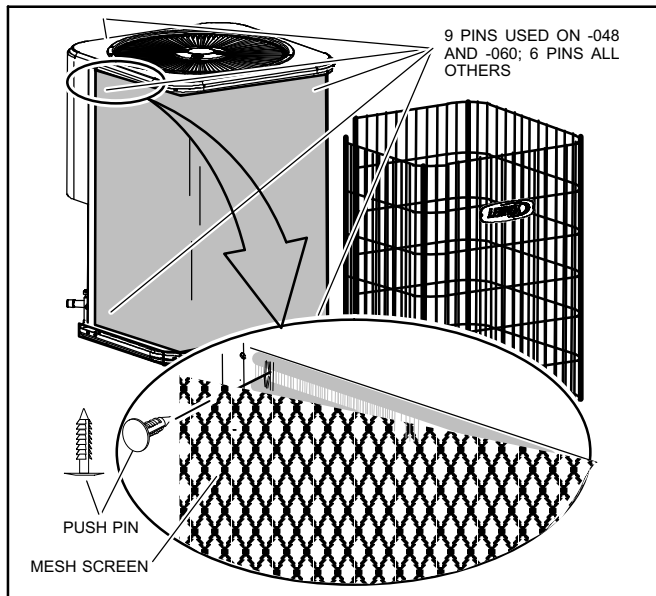

Figure 18. Cleaning Debris from Mesh
2. The outdoor coil is protected by an inner mesh screen and a wire cage (see figure 18). If debris has collected between the mesh screen and the coil and cannot be dislodged by spraying un-pressurized water from